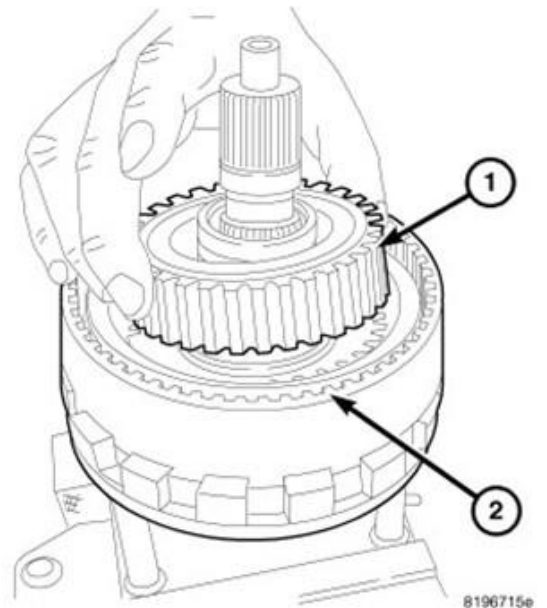

Figure 37 – Overrunning Clutch
- 52. Remove the overrunning clutch (1) from the low clutch (2) (Figure 37).
63. Install the overrunning clutch (1) to the low clutch (2) (Figure 37).